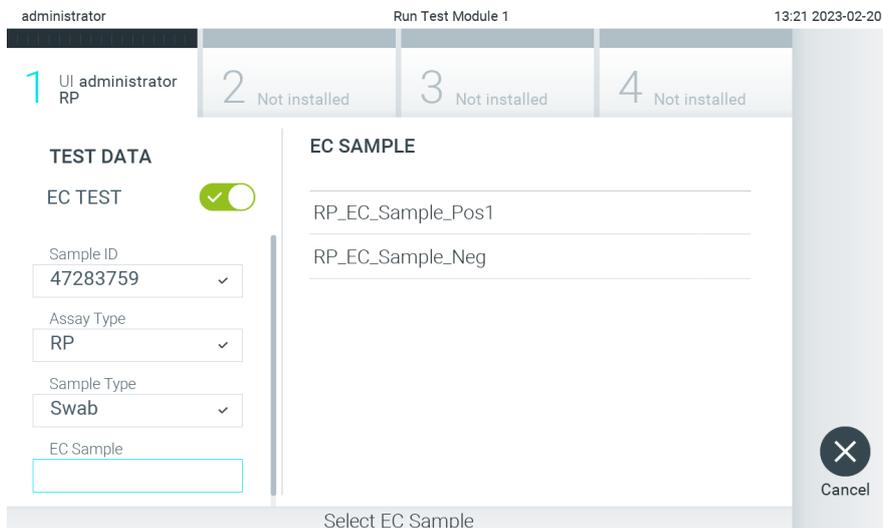

**Figure 94. Choosing a sample type.**
- If required, select the appropriate sample type from the list (Figure 94).